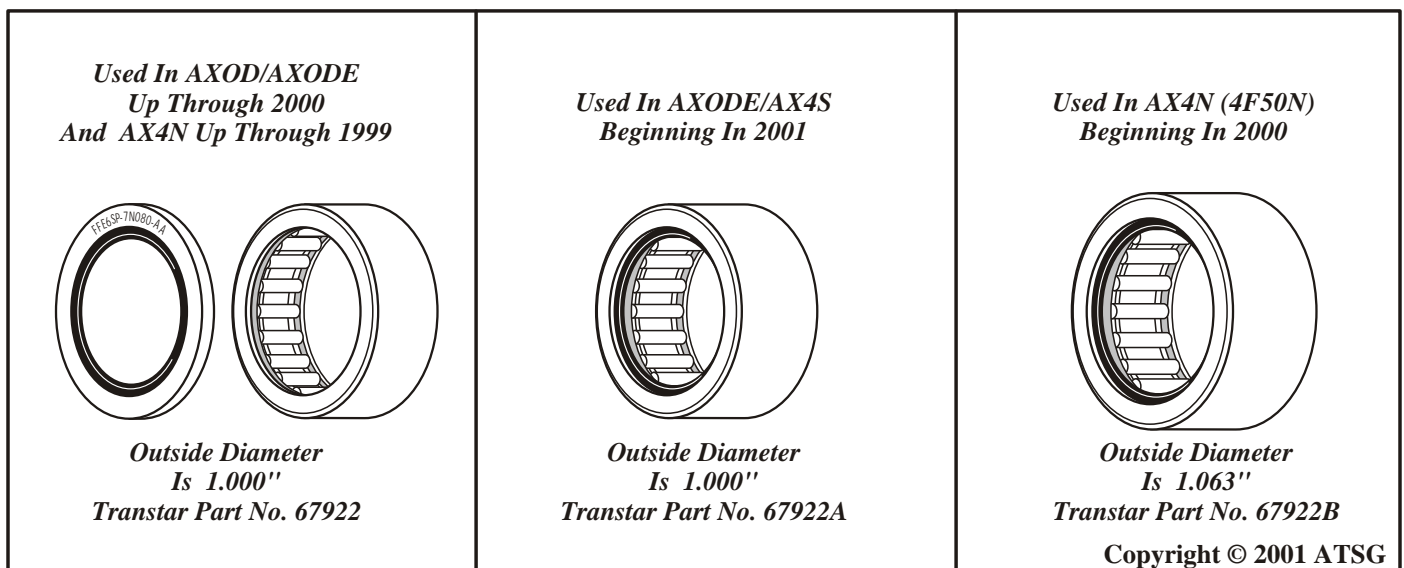
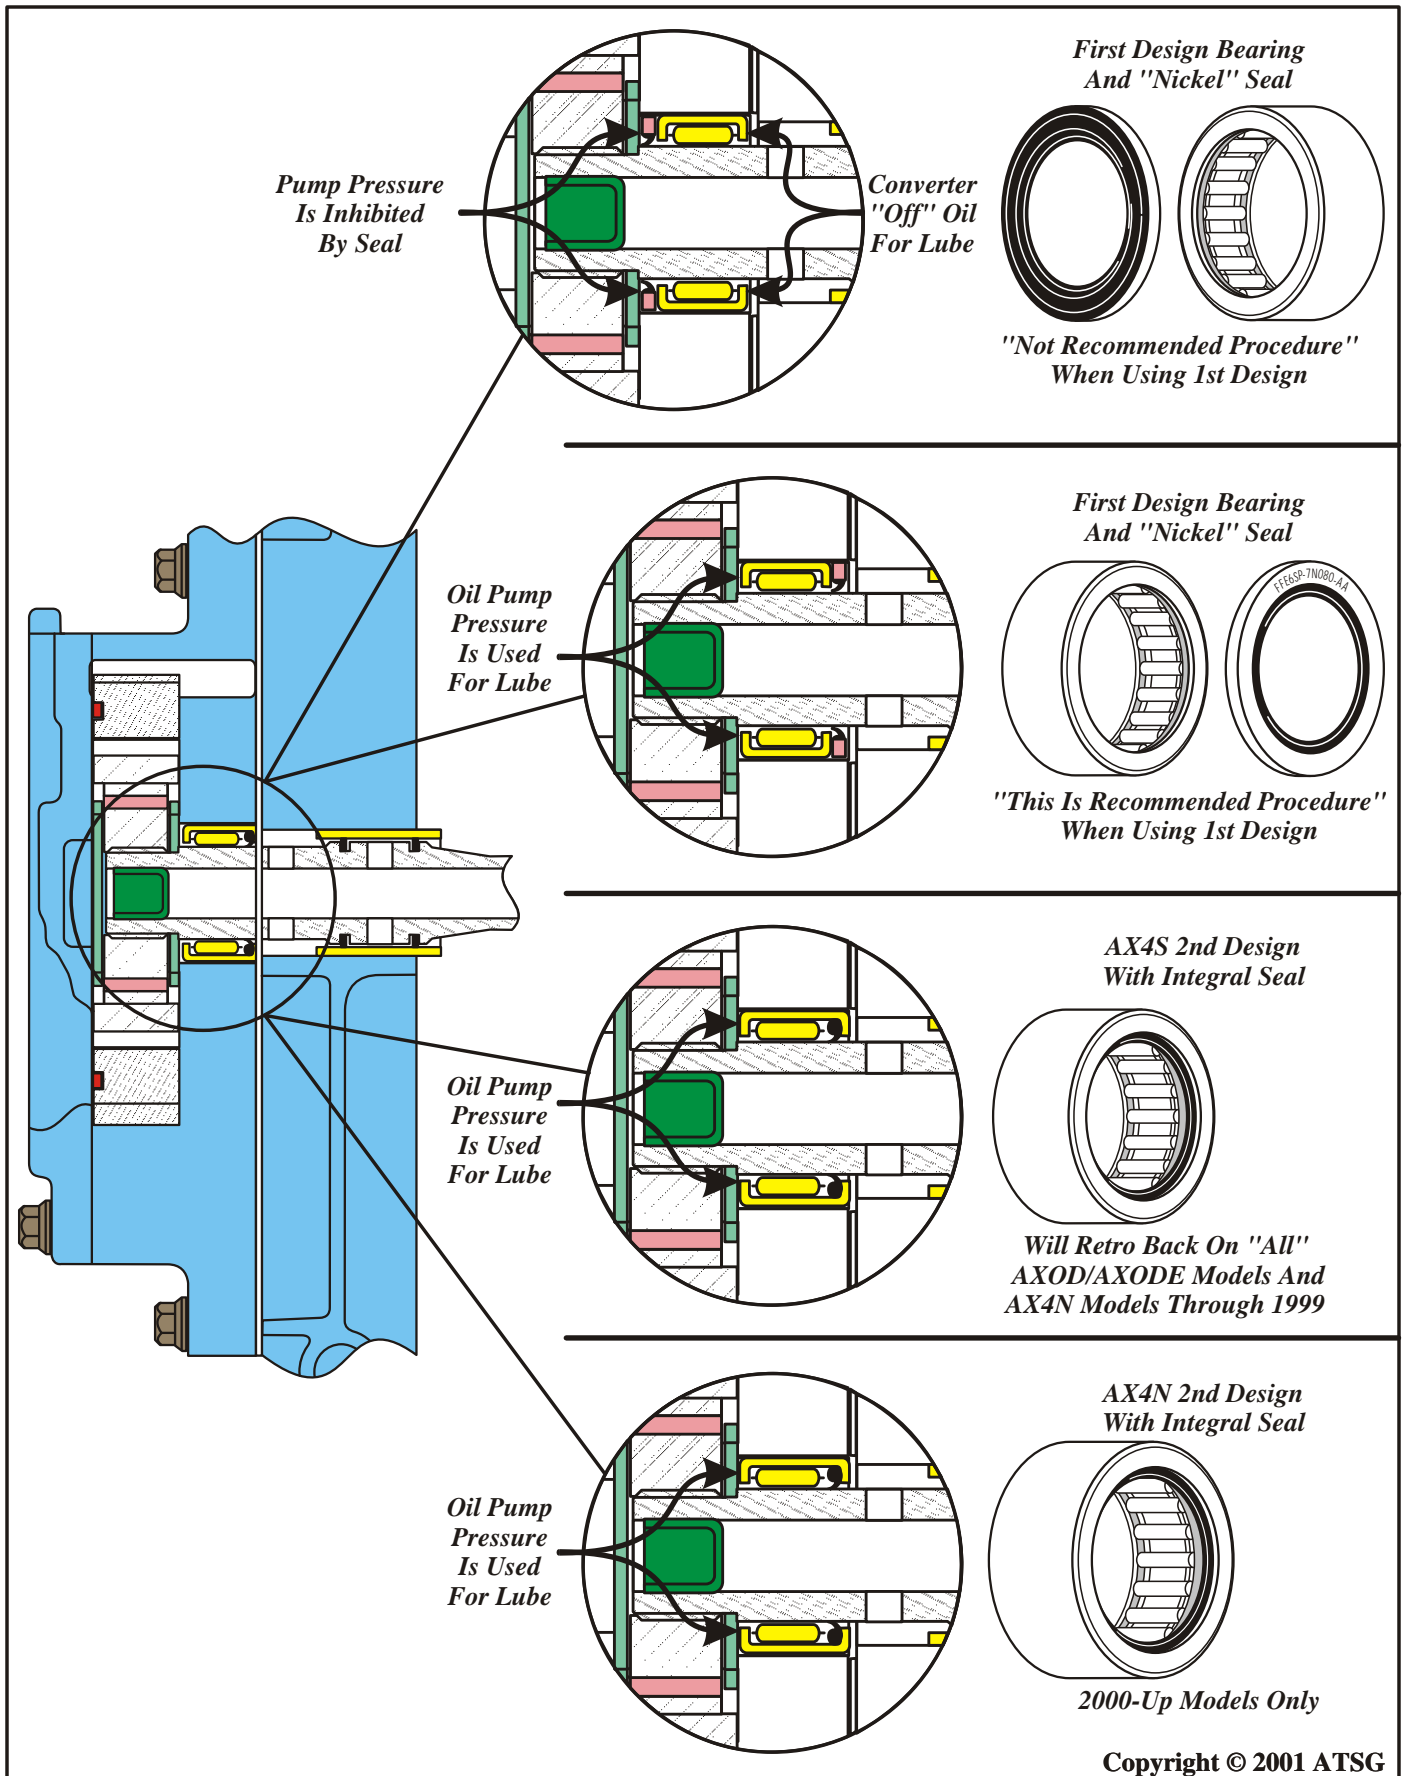

Figure 1
Figure 2
**CHANGE:** Beginning at the start of production for 2000 on all AX4N transaxles and 2001 on all AX4S transaxles, Ford Motor Company introduced a new design pump bearing that includes an integrated seal, as shown in Figure 1. When this new design bearing and seal assembly went into production, it was installed with the seal on the valve body side of the pump instead of the rotor side. This change is what will greatly reduce the failed bearings, broken pump rotors and vane rings. This procedure is now recommended for all units of this family, even if you are using the previous design level bearing and "Nickel" seal, as shown in Figure 2.
AXOD/AXODE (AX4S) - When using the 1st Design bearing with the "Nickel" Seal, install the seal on the valve body side, with the part number facing up, as shown in Figure 2.
When using the 2nd Design bearing with the integrated seal, install the bearing assembly with the integrated seal facing the valve body side, as shown in Figure 2. The 2nd Design Bearing and Seal assembly **will retro-fit back on all** AXOD, AXODE and the AX4N up through 1999.
AX4N (4F50N) - When using the 2nd Design AX4S bearing with the integrated seal on 95-99 models, install the bearing assembly with the integrated seal facing the valve body as shown in Figure 2. When using the 2nd Design AX4N bearing assembly with the integrated seal, install the bearing assembly with the integrated seal facing the valve body side, as shown in Figure 2. The 2nd Design AX4N bearing assembly will fit only 2000 models and later because of the increased diameter (See Figure 1).